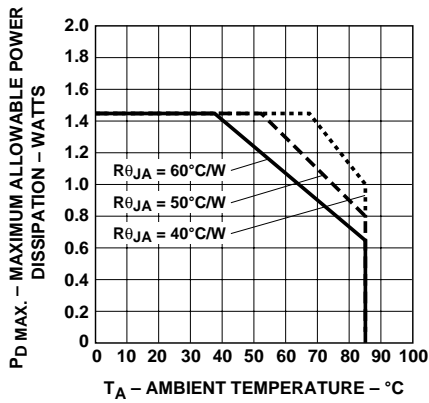

Figure 2. Maximum Allowable Power Dissipation vs. Temperature.
2. The HDSP-2301/-2302/-2303 should be derated linearly above 37°C at 16.7 mW/°C. This derating is based on a device mounted in a socket having a thermal resistance from case to ambient at 35°C/W per device. See Figure 2 for power deratings based on a lower thermal resistance.
The HDSP-2301/-2302/-2303 are available in standard ceramic dual-in-line packages. They are designed for plugging into sockets or soldering into PC boards. The packages may be horizontally or vertically stacked for character arrays of any desired size. The HDSP-2301/-2302/-2303 utilize a high output current IC to provide excellent readability in bright ambient lighting. Full power operation ($V_{CC} = 5.25 \text{ V}$, $V_B = 2.4 \text{ V}$, $V_{COL} = 3.5 \text{ V}$) with worst case thermal resistance from IC junction to ambient of $60^\circ\text{C}/\text{watt}/\text{device}$ is possible up to ambient temperature of 37°C . For operation above 37°C , the maximum device dissipation should be derated linearly at $16.7 \text{ mW}/^\circ\text{C}$ (see Figure 2). With an improved thermal design, operation at higher ambient temperatures without derating is possible.